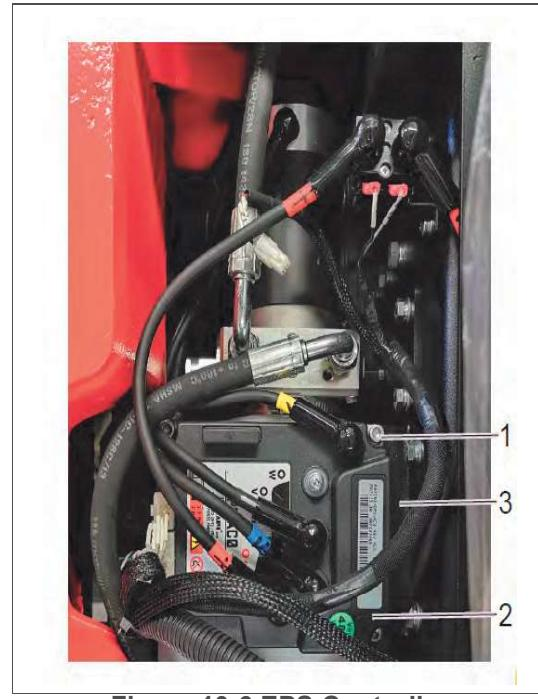

Figure 10-6 EPS Controller
2. Tag all cables, wiring harnesses and copper strips and remove them from the controller (2, Figure 10-6).
3. Remove the four screws (1) and remove the steering controller (2) from the electrical mounting plate (3).